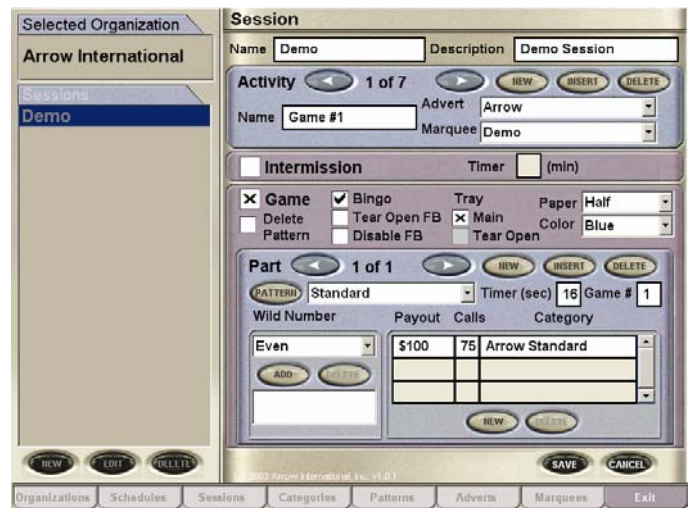

Figure 7.0
7. Select the desired Wild Number and touch the **ADD** button. This will place the selected Wild Number in the Wild Number list box (see **Figure 7.0**)